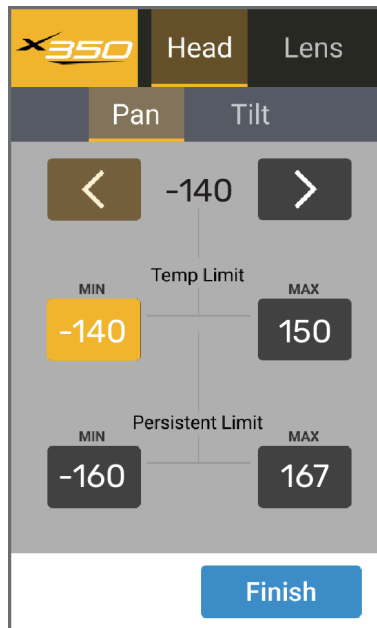

Figure 4.27 — The Pan Axis Reaches a Limit
3. Press and hold an arrow button to move the axis (Figure 4.27).
4. If warning messages appear, indicating that the axis is not enabled and/or homed, tap **Accept** each time such a message appears (Figure 4.27).
If the axis stops moving and the arrow button is shaded yellow, the axis has reached a limit (Figure 4.27). The limit buttons for that end of the axis turn yellow. for information about using the touchscreen to set axis limits, see **“Setting Axis Limits Locally (X350 and X650 only)”**.